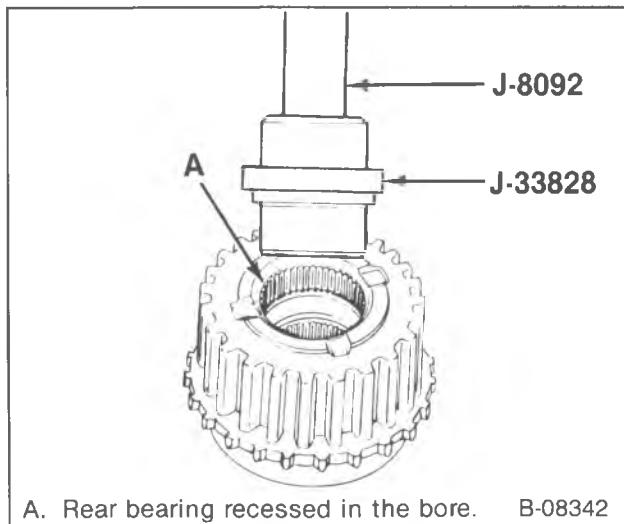

Figure 21—Drive Sprocket Rear Bearing Installation
2. Rear drive sprocket bearing (31) into the sprocket (32), using J 33828 and J 8092 (figure 21).
3. Thrust washer (33) on the mainshaft (1).
4. Drive sprocket (32) on the mainshaft.
5. Block ring (30) on the mainshaft.
6. Synchronizer assembly (27) on the main shaft.
7. New snap ring (26) on the main shaft.
8. Pump gear (5). Tap the gear with a soft hammer to seat it on the mainshaft.
9. Speedometer gear (6) on the mainshaft.